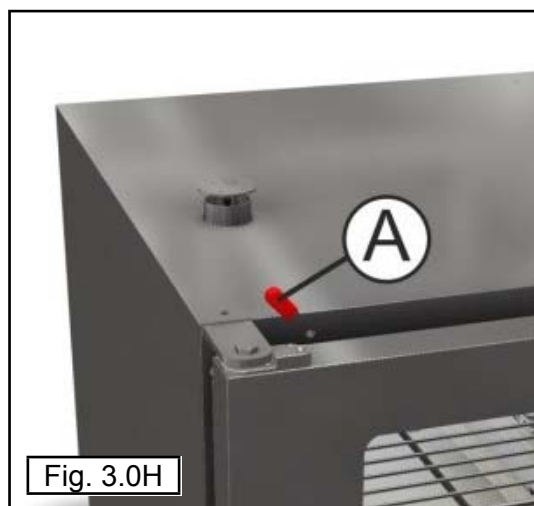

Fig. 3.0H
The valve is manually activated acting on the knob (A) (Fig.3.0H) on top of the door.